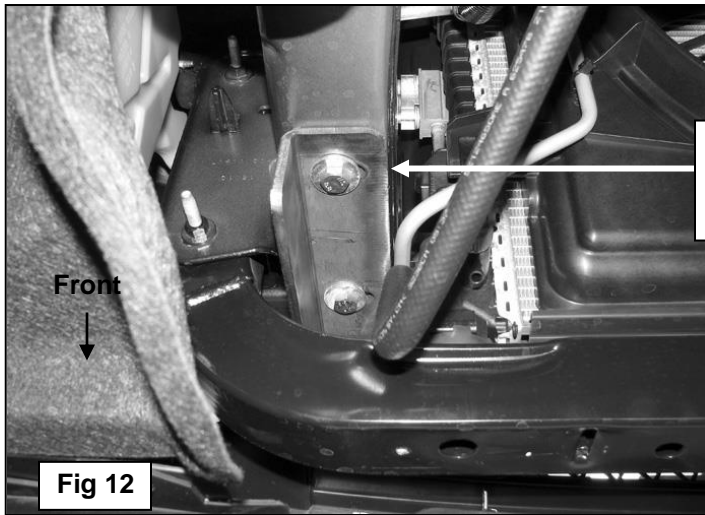

Fig 12
- 3.** Locate the (2) threaded holes in the bottom of the frame channel, **(Figure10)**. Select the driver side Frame Mounting Bracket. Hold the Bracket with the mounting tab flat, **(Figure11A)** insert it through the opening and rotate up into position in line with the factory threaded holes, **(Figure11B)**. Bolt the Bracket to the frame channel with (2) 10mm x 30mm Hex Bolts, (2) 10mm Large Flat Washers and (2) 10mm Lock Washers, **(Figure 12)**. Snug but do not fully tighten the hardware at this time. Repeat this step for passenger side Frame Bracket installation.